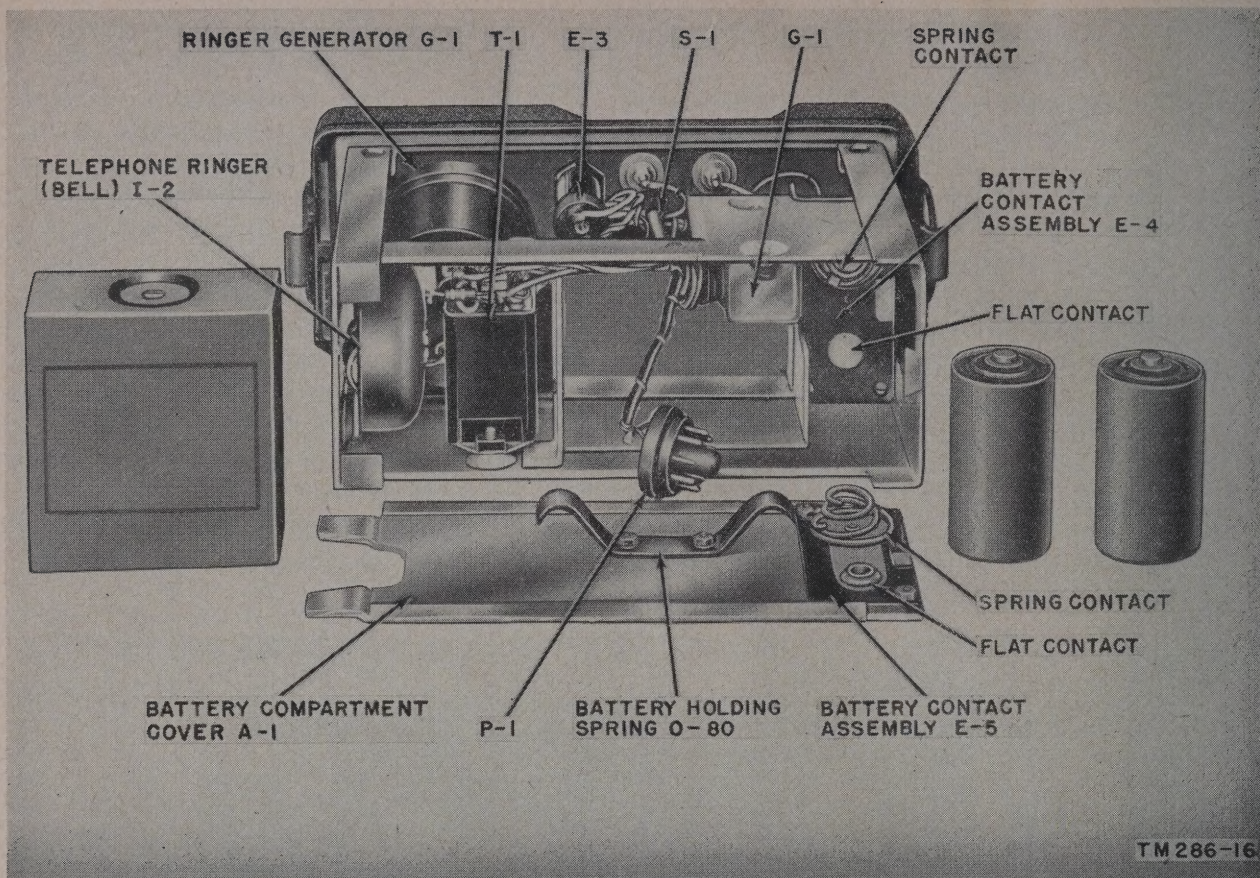

Figure 36. Remote Control C-433/GRC, rear view of chassis.
- (1) Set the panel-mounted **SELECTOR** switch to the **TEL** position (fig. 36).
- (2) Release the two snap catches which hold the outer case to the panel-chassis assembly, and remove the unit from the case.
- (3) Remove the tape which secures the battery compartment cover to the sides of the unit, and remove the cover. To do this, slide the cover slightly back to clear the tab on one side; then lift the cover off.
- (4) Install two 1½-volt Batteries BA-30 in the compartment provided for them in the left rear of the chassis frame (fig. 36). Install one battery in the compartment so that the bottom of the battery outer case (negative electrode) rests over the spring contact on the battery com-